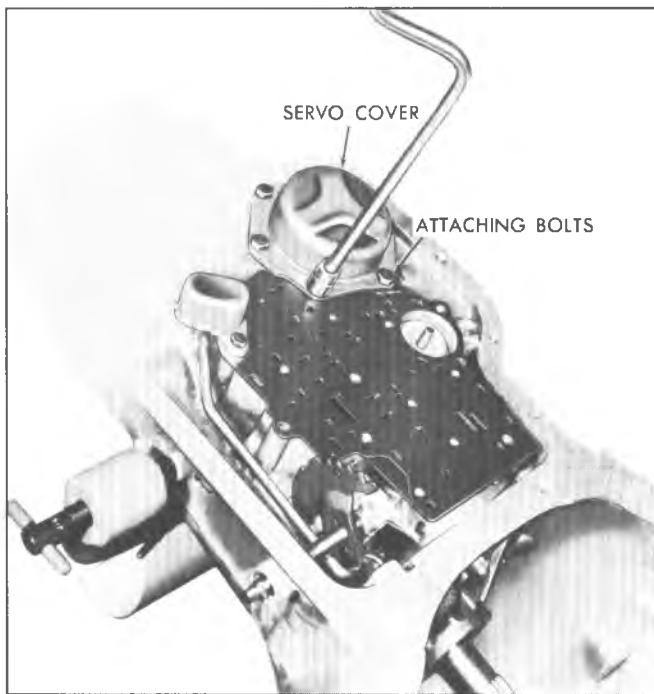

Fig. 11T--Removing Rear Servo Cover Attaching Bolts
1. Remove rear servo cover attaching screws, servo cover and gasket (fig. 11T).